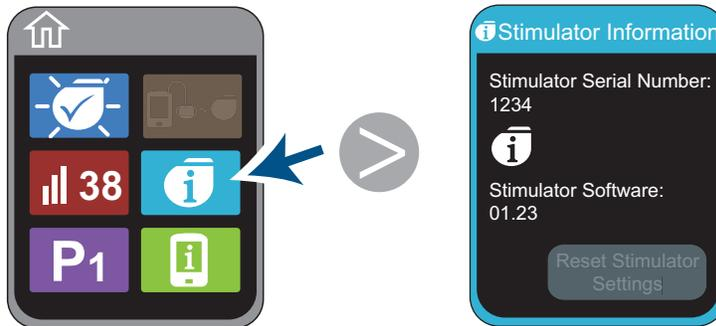

Figure 104. Displaying the Stimulator Information screen
1. Tap  on the Home screen (Figure 104). The Stimulator Information screen appears.